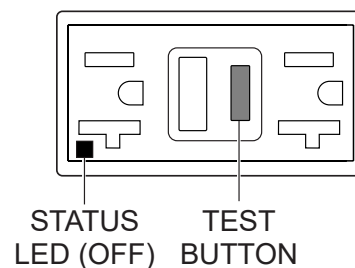

Figure 189. GFCI Receptacle (OFF)
4. Press the **TEST** button (Figure 189) on the GFCI receptacle and verify that the status LED turns **OFF**.